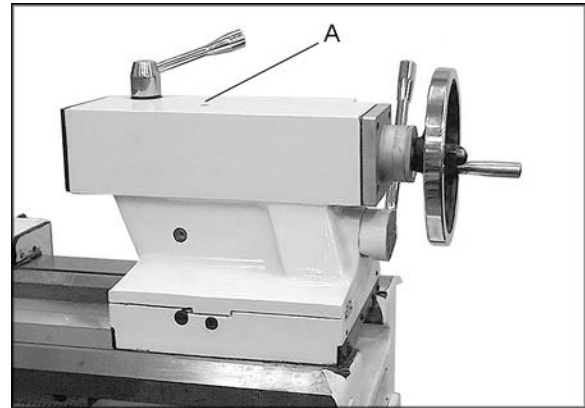

Figure 13
9. **Tailstock** – Daily lubricate one ball oiler (A, Figure 13) on top of tailstock with SAE 20W.